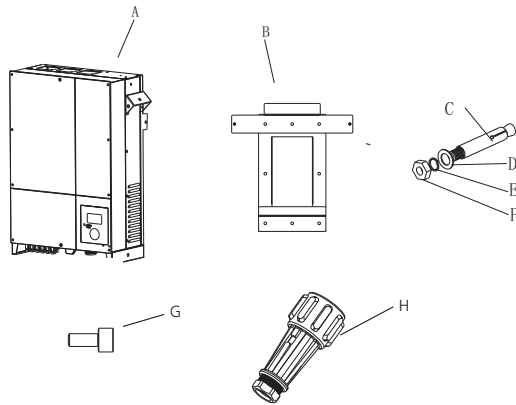

Fig 2.1
- Fix the mounting frame on the wall as the figures shown below, combine as the screws as the Items Fig 2.1 shows (items C, D, E, F).